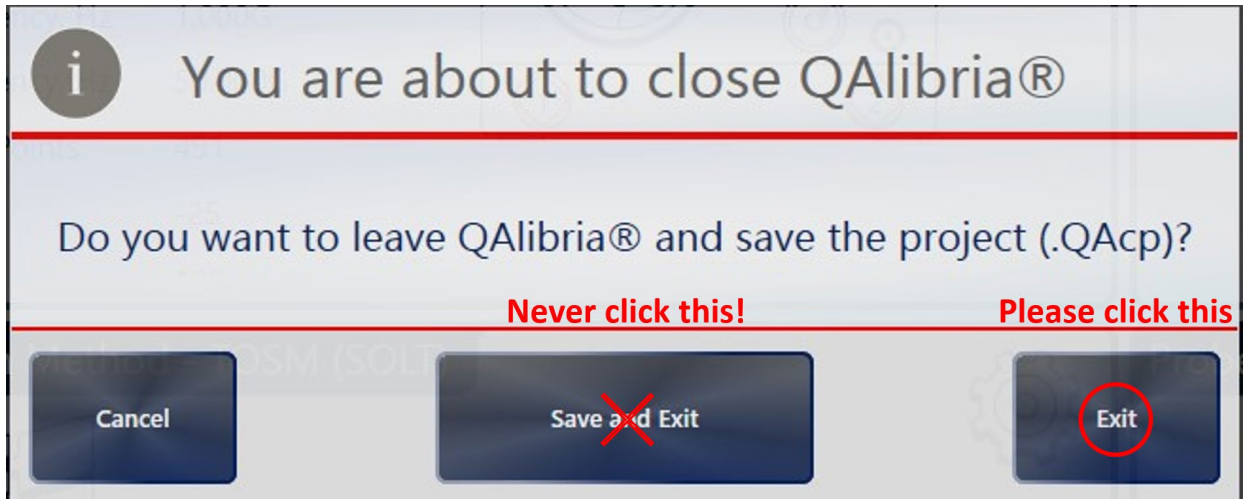

Fig. 7.20. Closing QAlibria.
- 7.26 Close QAlibria by clicking on at the upper right corner of the QAlibria home screen (Fig. 7.9). Then click on "Exit" as shown in Fig. 7.20. **Never click on "Save and Exit!"** Otherwise, it will overwrite the default program and you will need to ask the tool owner to restore it so as not to surprise the next user.